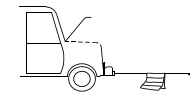

figure 5
12. Lay a blanket or a big towel near the hook on the wire rope when pulling heavy load, so that it can prevent the rebound of the wire rope when taken off the hook. Meanwhile, raise the lid of the vehicle for protection (See figure 5).